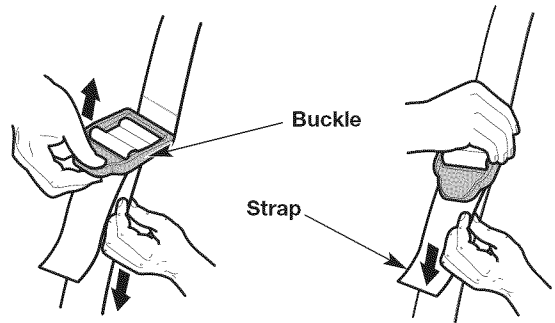

Fig. 13
6. Adjust the shoulder strap to fit the operator (Fig. 13). Pull the buckle up to loosen the shoulder strap. Pull the strap down to tighten the shoulder strap.